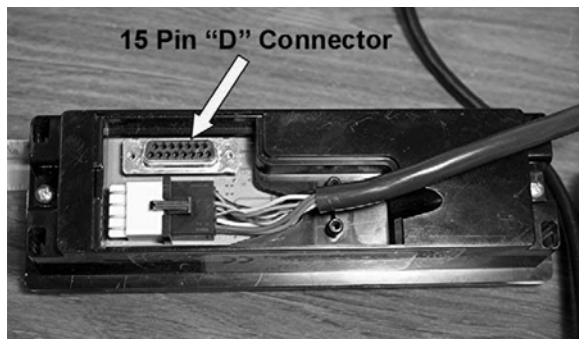

Figure 59: “D” Connector
4. Connect a Thermo King 9 to 15 pin serial cable from the PC computer to the 15 pin connector on the back of the Standard Truck HMI Control Panel shown in Figure 59.